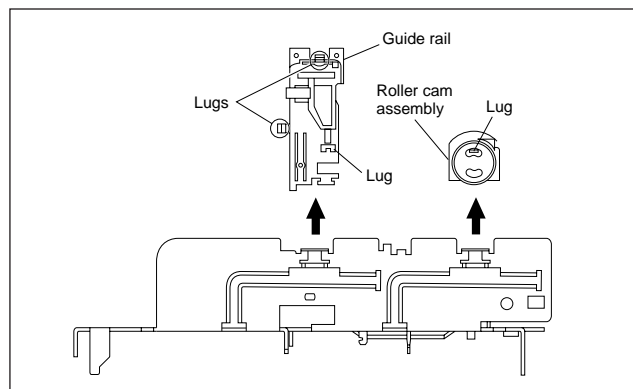

Fig. 2-2-3a
- (1) Remove the guide rail and roller cam assembly. (See Fig.2-2-3a.)
- (3) Lugs on the guide rail and one lug on the roller cam assembly